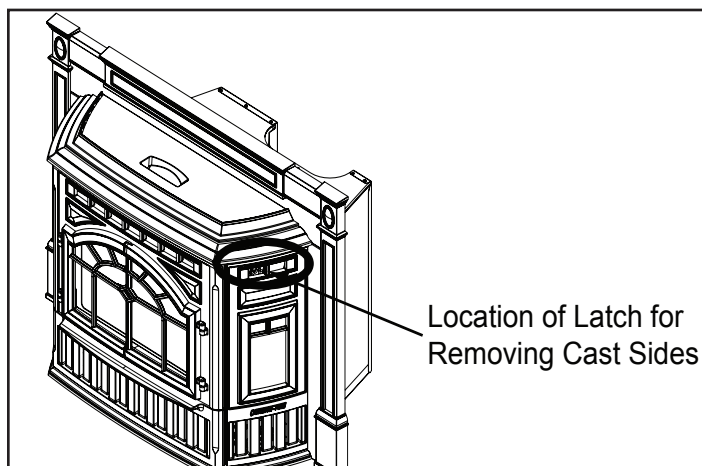

Figure 31.1
1. There is a latch on the back side of the cast side in the middle of the top opening of the cast side as indicated in **Figure 31.1**.